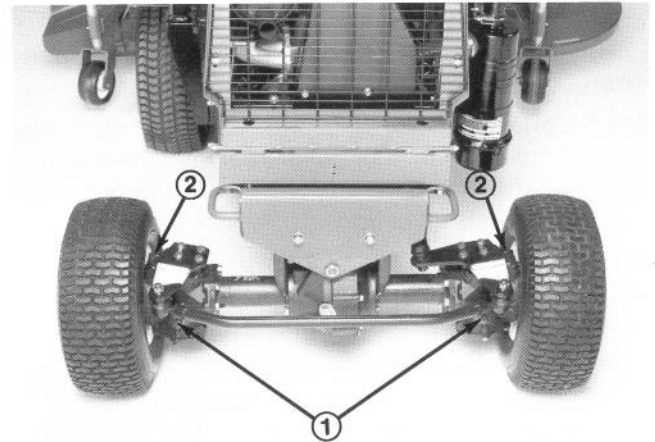

Figure 24
2. Remove a check plug from each end of axle and make sure lubricant is up to bottom of hole. If level is low, remove one of the mounting bolts above each end plug and add enough lubricant to bring the level up to the bottom of the hole (Fig. 24).
3. Remove plug in center of axle and check level. If level is low, add enough lubricant to bring the level up to the bottom of the hole (Fig. 24).